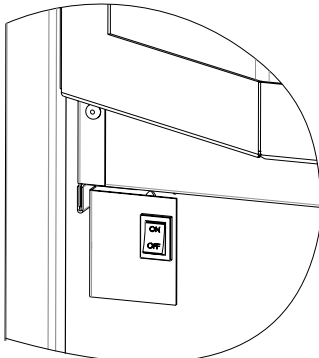

Figure 47
- B. Turn on the main electrical power to the fireplace. See Figure 47. The red and green control board LED lights will begin flashing alternately. Each light will flash four times. Then the fireplace will enter standby and the green LED light will begin to slowly flash. Verify power is on by checking if there is power to the control board. If the fireplace has power, the green LED light on the control board will be flash slowly.